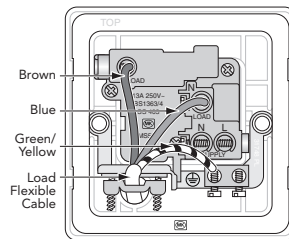

Fig. 1 - Flexible (load) cable connections
6. The conductors should now be connected to the respective load terminals as described below and shown in **figure 1**.